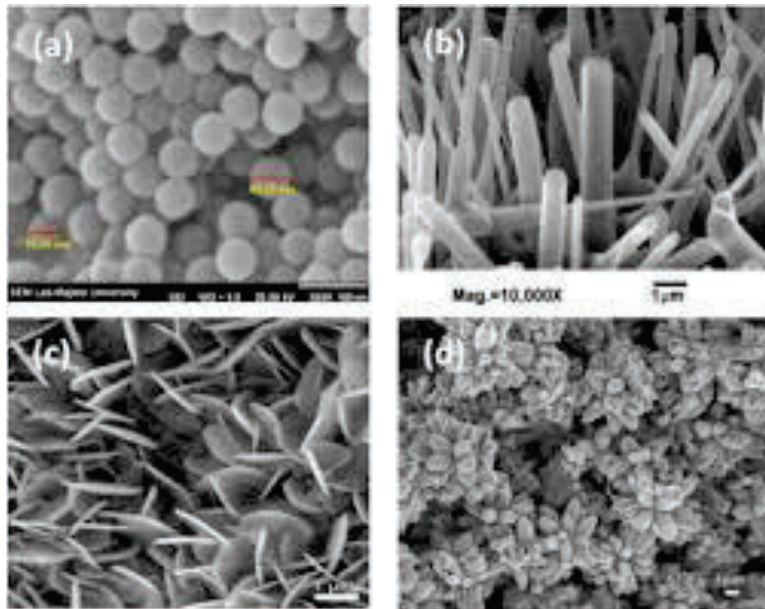

Figure 3: Images of ZnO nanoparticles
- (c). Different shapes and sizes of ZnO as in Figure 3 nanoparticles may have impact on toxicology. Explain how does ZnO nanoparticles may cause toxicity to living things and environment.